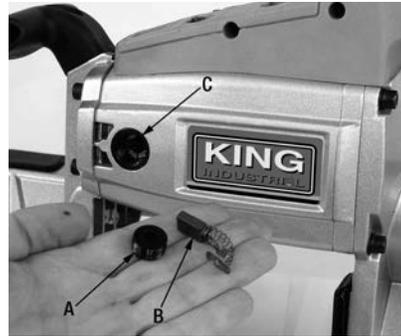

FIGURE 8
To do this, unscrew the brush caps (A) Fig.8 (on both sides of motor housing). Slide carbon brushes (B) out of carbon brush holders (C). Check carbon brush for spring damage and remove any dirt. If carbon brushes are completely worn, replace them with new ones (carbon end placed first inside the brush holders), reinstall brush caps.